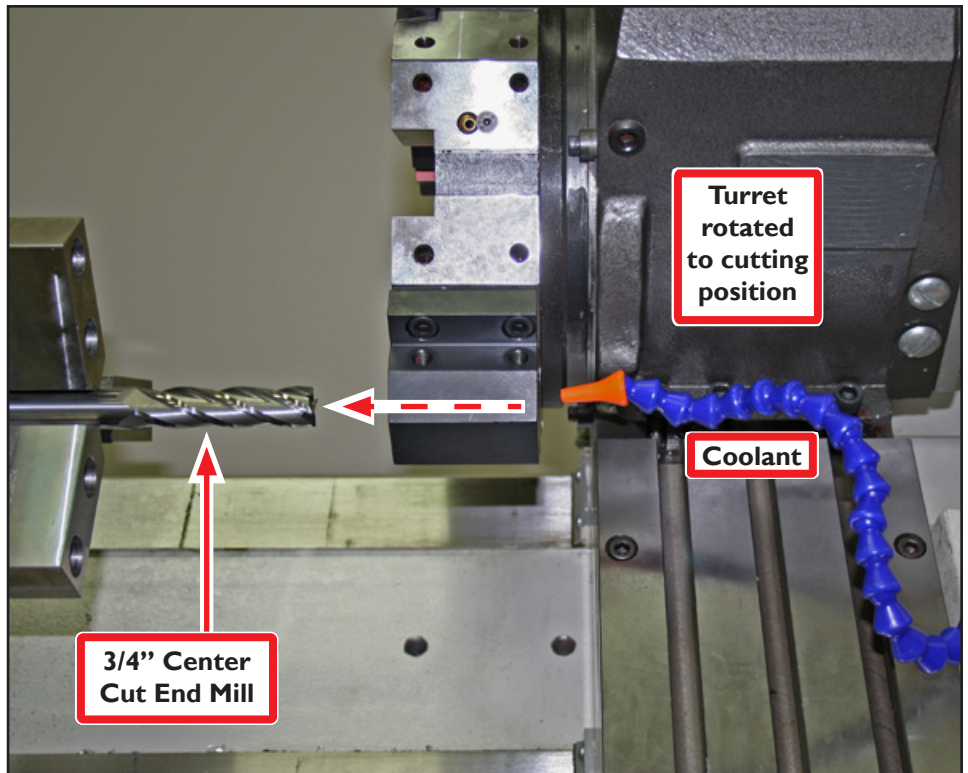
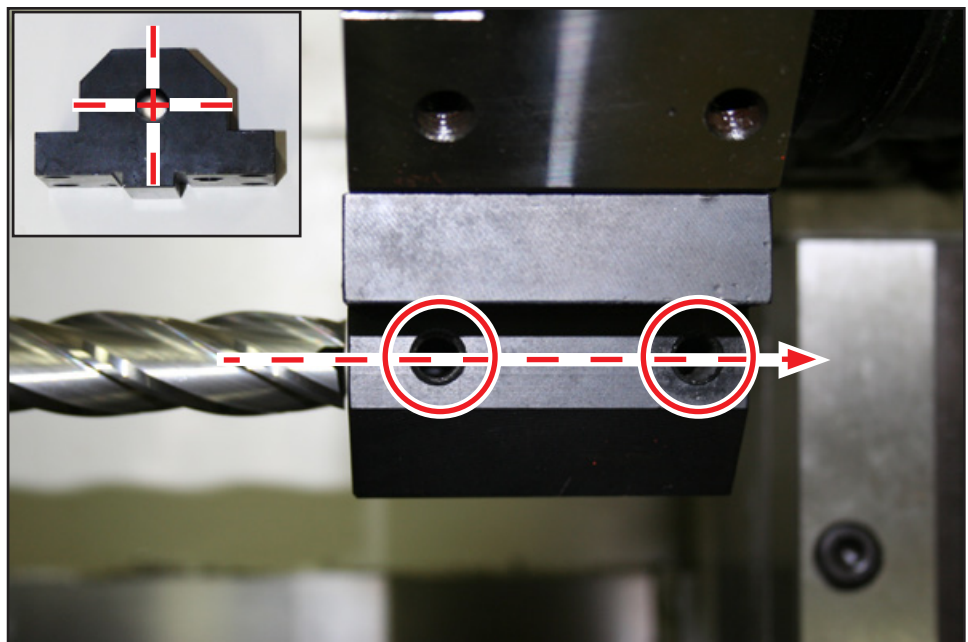

Figure 34
Figure 35
7. Rotate (or index) turret until Boring Bar Holder is in cutting position (see **Figure 34**).
8. Install (included) 3/4" Center Cut End Mill into spindle (see **Figure 34**).
9. Jog mill in X axis to line up spindle with Boring Bar Holder (see **Figure 34**).
10. Fine tune alignment of End Mill with lock-down screw holes as shown in **Figure 35** and inset.
12. While flooding the Boring Bar Holder with Coolant (see **Figure 34**), slowly jog in Z axis to feed Boring Bar Holder into end mill (see **Figure 35** and inset); drill through Boring Bar Holder.